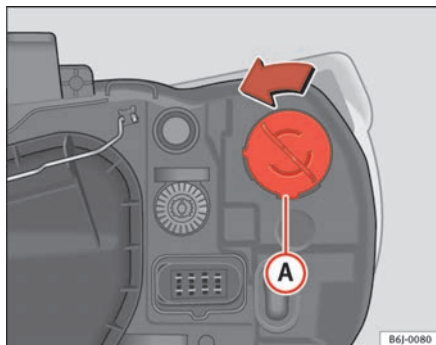

Fig. 140 Single indicator lamp
- Rotate the bulb holder ⇒ fig. 140 **A** to the left and pull.